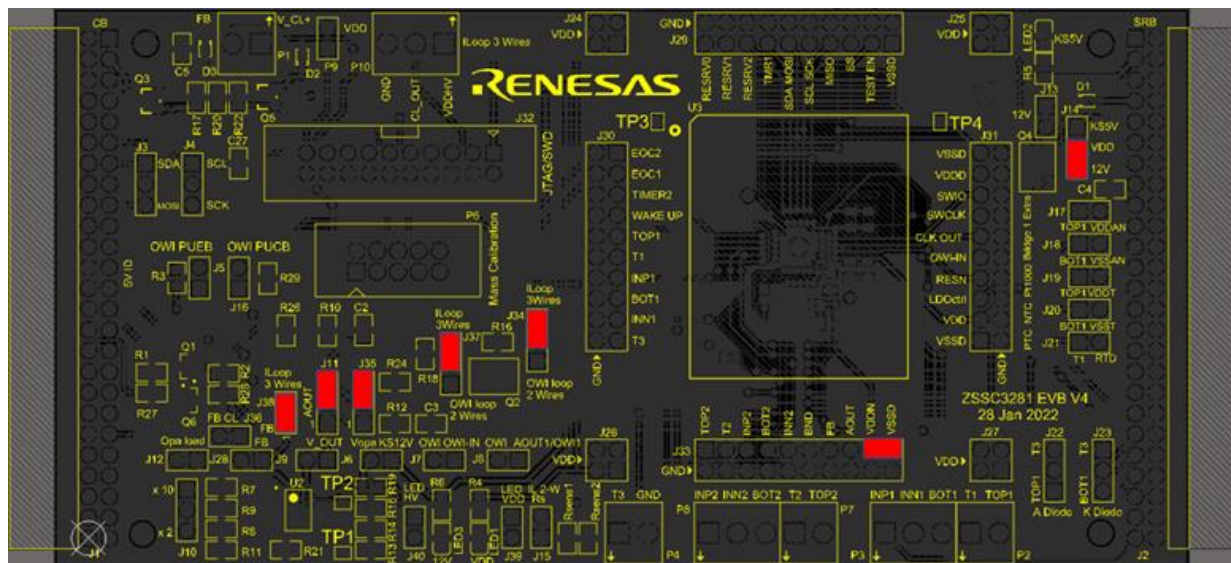

Figure 131. 3-Wire-Current-Loop Jumper Setting
- Ensure that VDDN is shorted to GND (J33) as displayed in Figure 131.